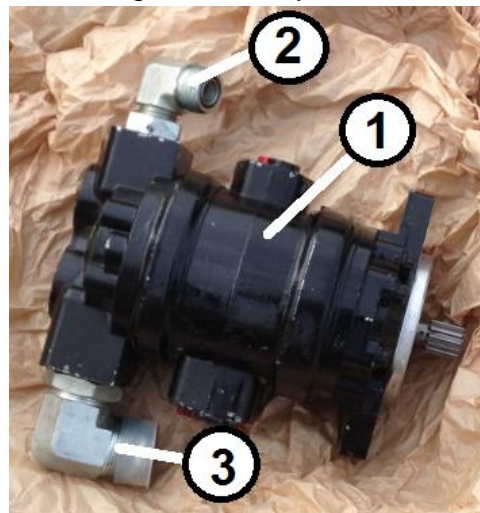

Figure 78. Hydraulic Pump Assembly
Install merger hydraulic pump with original O-ring and reuse two (2) M12x35 bolts. Orient the pump such that the suction ports are facing the right side of the machine. See Figure 78.
Install Suction lines on the right side of RCI auxiliary hydraulic pump to tank ports. The original hydraulic suction hose for the auxiliary pump of the base machine is replaced with a new hose and is routed from the rear right port of the pump to the original back right port of the tank shown in Figure 78. The hose removed should be saved with the original charge pump for the customer.